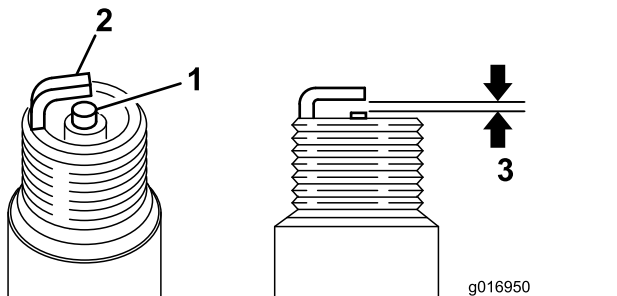

Figure 39
3. Set the air gap at 0.6 to 0.7 mm (0.024 to 0.028 inch) as shown in Figure 39. Install the correctly gapped spark plug and tighten it firmly to 23 N·m (17 ft-lb).